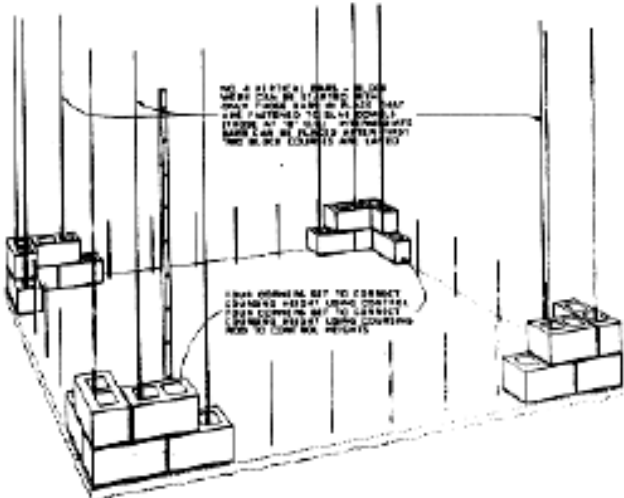

Figure 46. Corners of the shelter set for first two block courses
The corners for each wall segment should be placed before infill blocks are placed along the length of the wall. The bottom mortar bed (or several beds) should be used to level the masonry walls so that the tops of blocks units at all the corners are at the same elevation. Corners should be laid up two or three courses, using the control rod to set each corner block and a level to align the corner and adjacent block units (see Figure 46).
Step 2. Place mortar on the end face of the block unit next to be laid, drawing the trowel across the edges of the block end, as indicated in Figure 46. This mortar will form the vertical joint (the head joint). The mortar consistency should be such that the mortar will stick to the surface of the masonry unit. It will help to keep the block units dampened during hot weather so that water in the mortar is not absorbed too quickly into the masonry material.
The inside wall (next to the stair) should be laid at the same time the perimeter walls are laid (not shown in Figure 46). This inside wall is reinforced with horizontal joint reinforcement at every second block course also and with No 4, vertical bars spaced at 16" o.c. Dowels are not needed to secure this steel to the floor slab. However, the block cells of the inside wall are to be filled with grout.